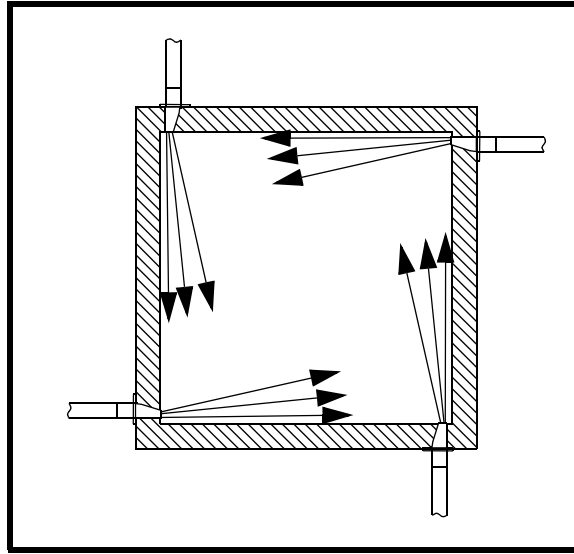

Figure 10. Riser Duct with Fan Jet Blow Nozzles (High-Temperature Applications)
- (3) Insert fan jet blow nozzle (B) in hole with nozzle face flush with refractory lining surface. Position fan jet blow nozzle to sweep adjacent wall when cannon discharges (see Figure 10).